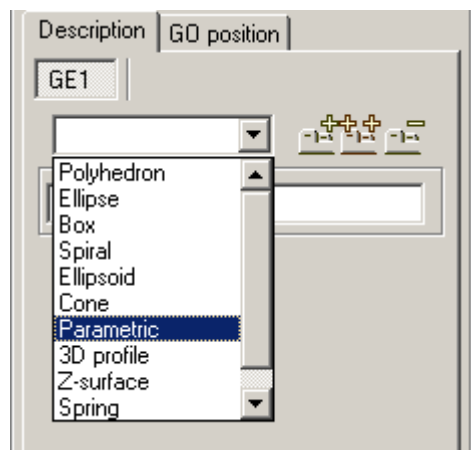

Figure 3.5.
5. Select **Parametric** type in the pull-down menu (Fig. 3.5).